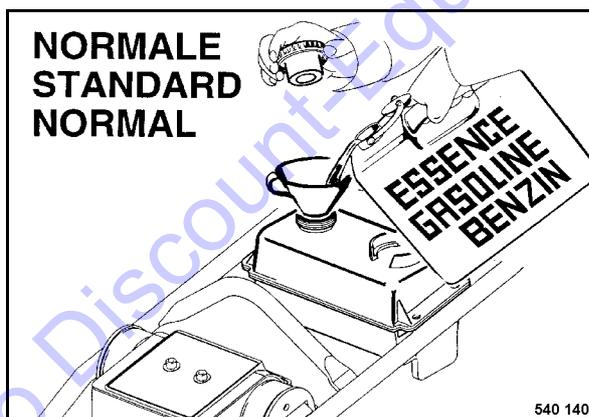

Fig. 11
- After filling close the filler cover tightly (Fig. 11).